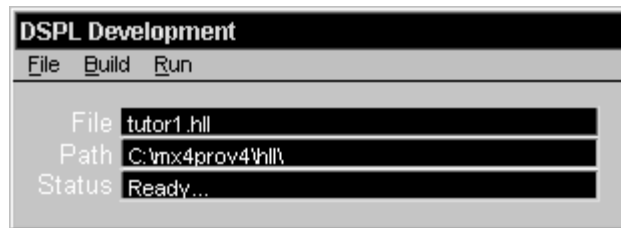

Fig. 5-1: DSPL Development Tool
1. **Open the DSPL Selection window.** This can be achieved by selecting **Open...** under the **File** menu or in the popup menu (right click in the DSPL Development window). Double-clicking inside one of the three black areas (File, Path, or Status text boxes) inside the DSPL Development window (Figure 5-1) will also open the DSPL Selection window.